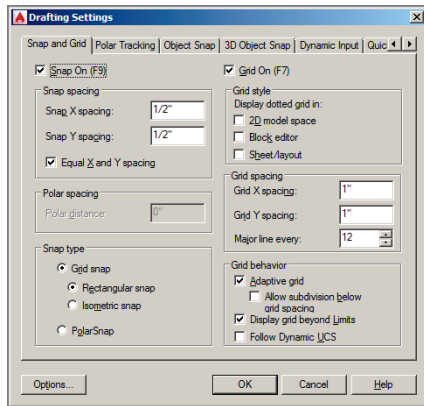

FIGURE 3.2 Setting up grid spacing and toggling on Snap
4. Type **DS**, and press Enter to open the Drafting Settings dialog box. Change Grid X spacing to 1" (or 10 for metric), and press Tab; Grid Y spacing updates with the same value. Set Major Line Every to 12 for Imperial (or 10 for metric) so that you'll see darker grid lines every foot. Notice that Snap spacing is set to 1/2" (or 10 mm) by default. Select Snap On, and verify that the Grid Snap and Rectangular Snap radio buttons are selected in the Snap Type area (see Figure 3.2). Click OK.
2. Select the PolarSnap radio button in the Drafting Settings dialog box. Type **1"** (or **10** for metric) in the Polar Distance text box (this dialog was shown back in Figure 3.2). Click OK.